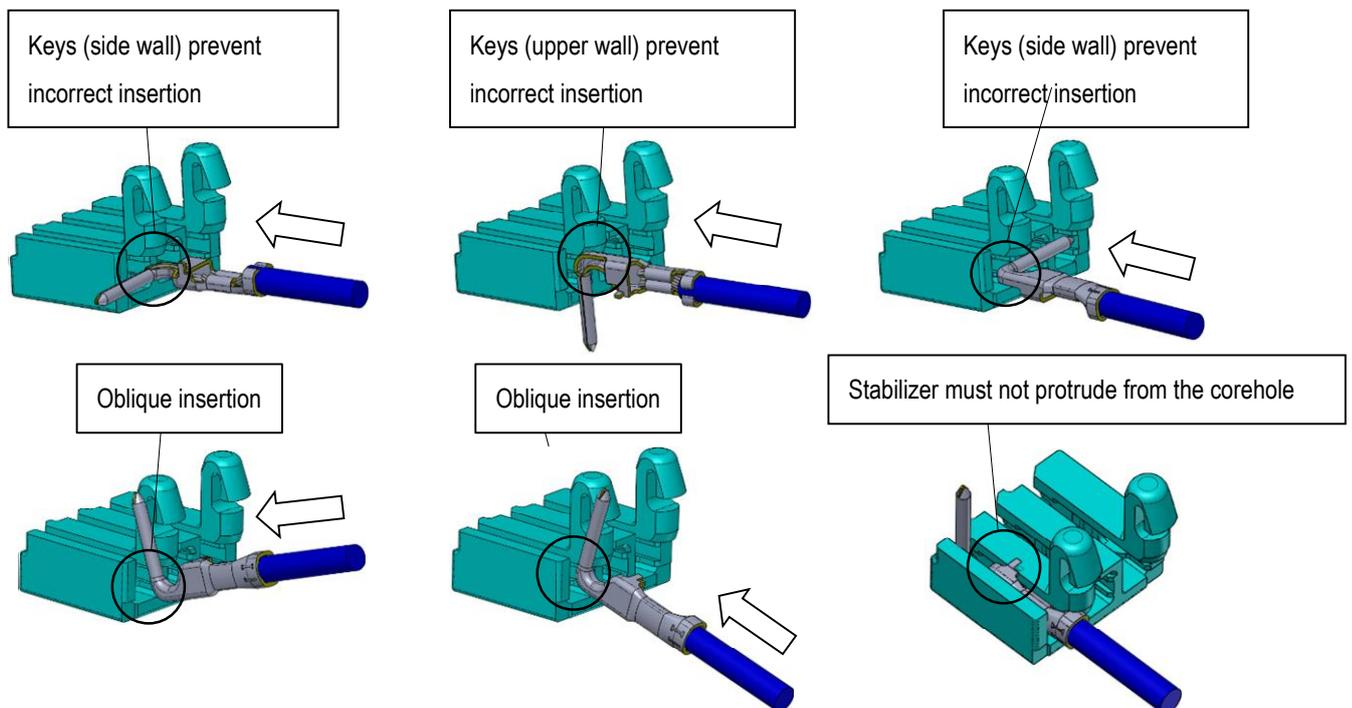

Fig24. Incorrect terminal insertion
- ① Terminals must be inserted in the orientation instructed. Forcibly inserting terminals in any other orientation may result in damage or deformation. Furthermore, if the terminals are inserted with incorrect orientation, terminal key prevents insertion into coreholes. (see Fig.24)
- ② Once the terminal is inserted, do not apply excessive pulling force to the wire.